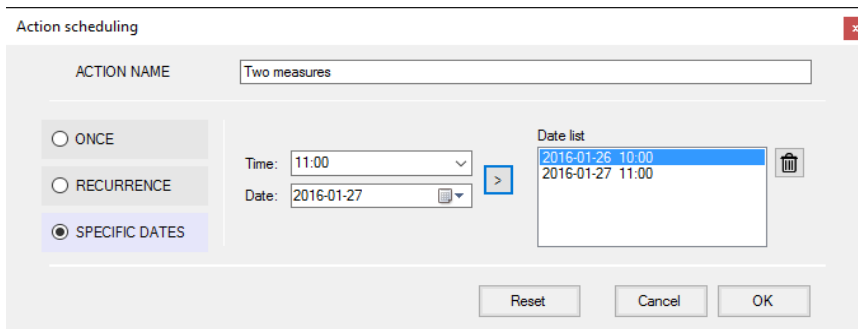

Fig. 20 Specific Dates option in Action scheduling window
*Specific dates* (Fig. 20) – action does not have period, or there are just few repeats. Specific dates method is based on manually editing the dates and times for each action execution. Click *OK* button to add the list of time points to the *Schedule action* window.